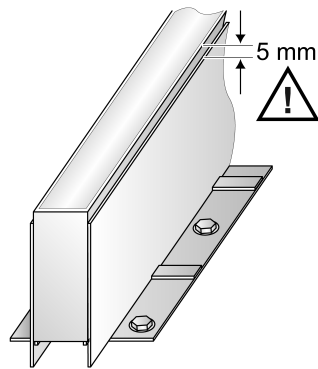

Figure 4: Installed luminaire
- The installed luminaire exceeds the upper edge of the frame by 5 mm (Figure 4). The upper edge of the floor after finishing must therefore also exceed the frame by 5 mm.